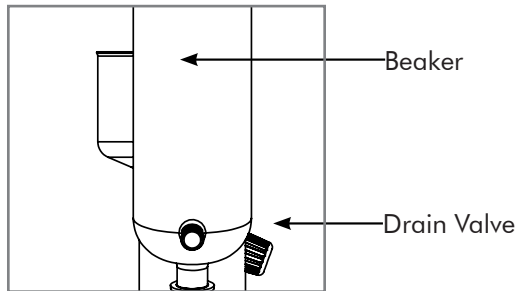

Fig. No. 16.1
2. Connect the silicon tube to the drain valve (Ref. Fig. No. 16.1).